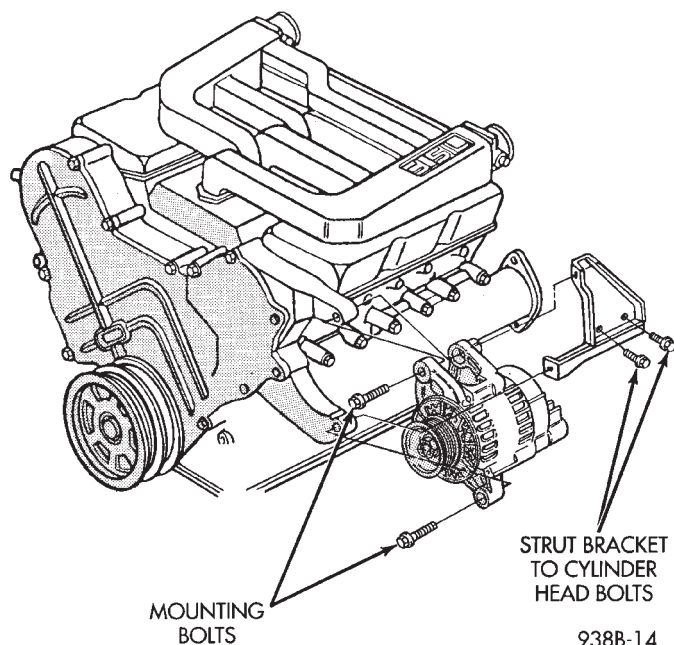

Fig. 8 Generator—3.5L Engine
- (1) Disconnect negative battery cable.
- (2) Loosen lower mounting bolt do not remove (Fig. 8).